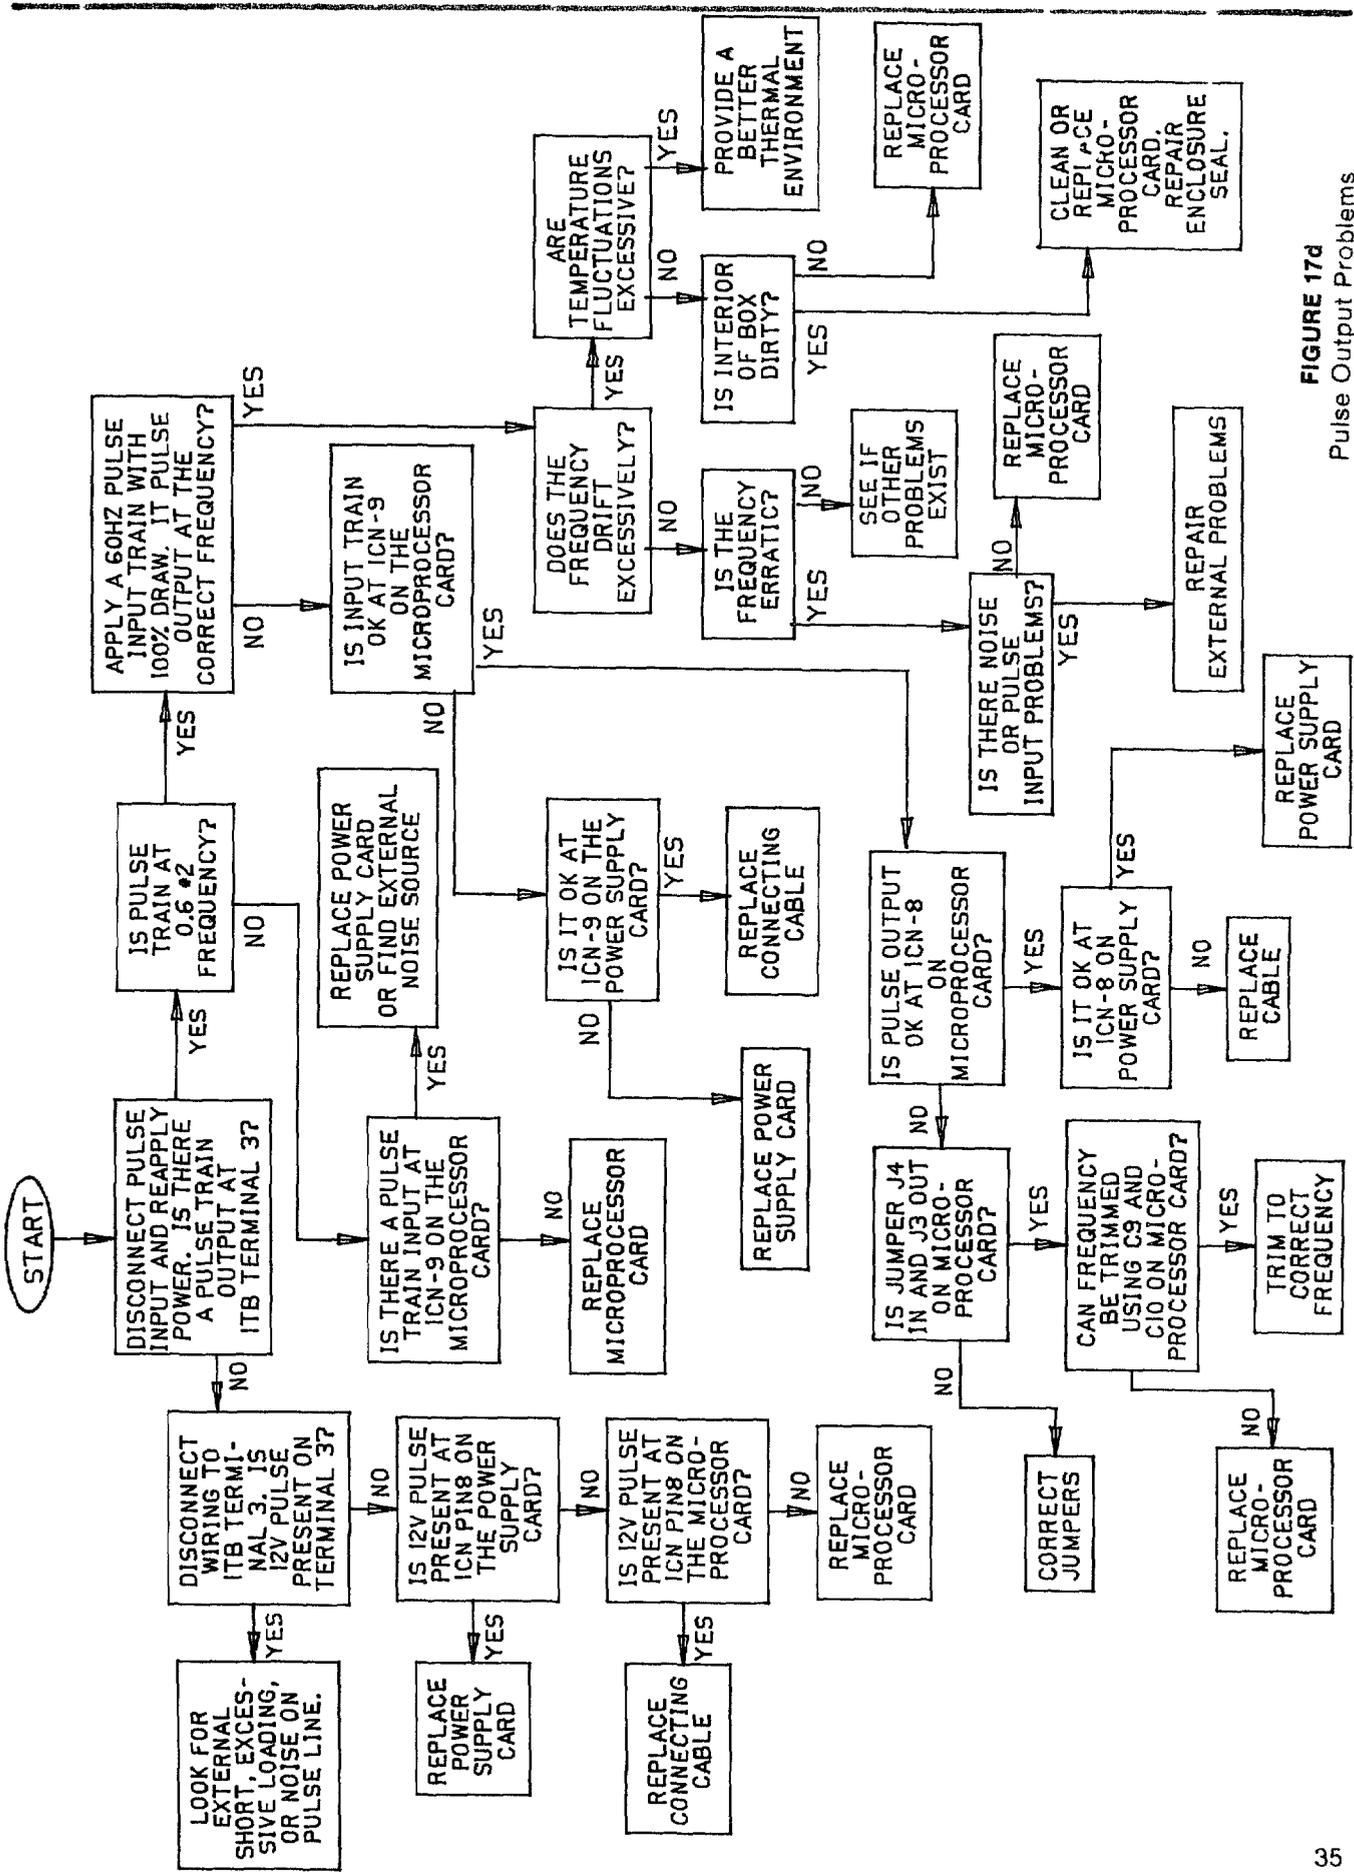

FIGURE 17d
4. Pulse output problems: (Fig. 17d)